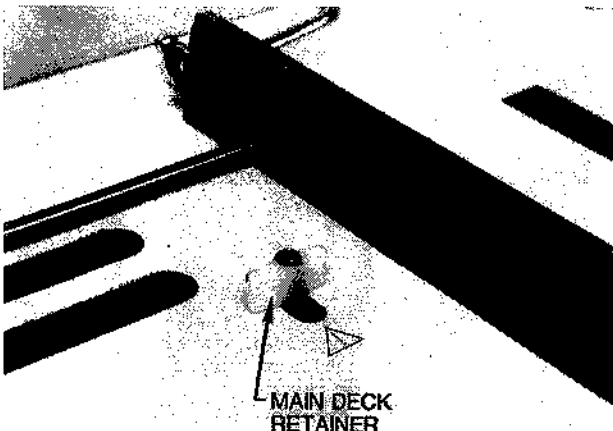

FIGURE 5.4 REMOVAL OF MAIN DECK
- E. REMOVE MAIN DECK.** Rotate the Main Deck Retainer (Figure 5.4) parallel with the slot, then lift out the Main Deck and Hood Seat Gasket.
C. **INSTALL THE MAIN DECK AND HOOD SEAT GASKET** into the Base Assembly as shown in Figure 5.7. Rotate the Main Deck Retainer (Figure 5.4) to secure the deck.